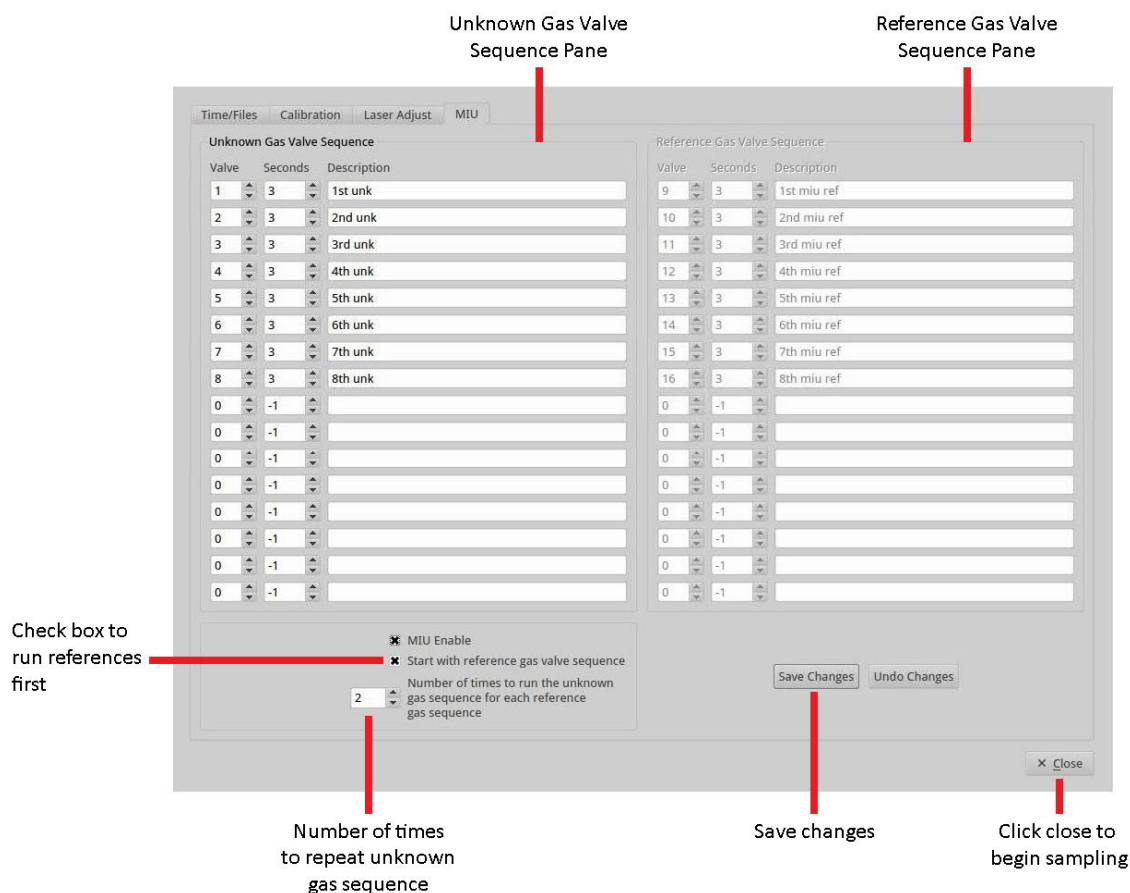

Figure 92: Gas Manifold Control Screen for the MIU, Enabled
6. Use the arrow scroll bar to select the number of times to run the unknown gas sequence for each reference gas sequence. (Figure 92)
8. To begin sampling, click Close. (Figure 92)
9. When sampling is complete, disable the MIU by returning to the *MIU screen*, and uncheck the MIU Enable check box. (Figure 92)